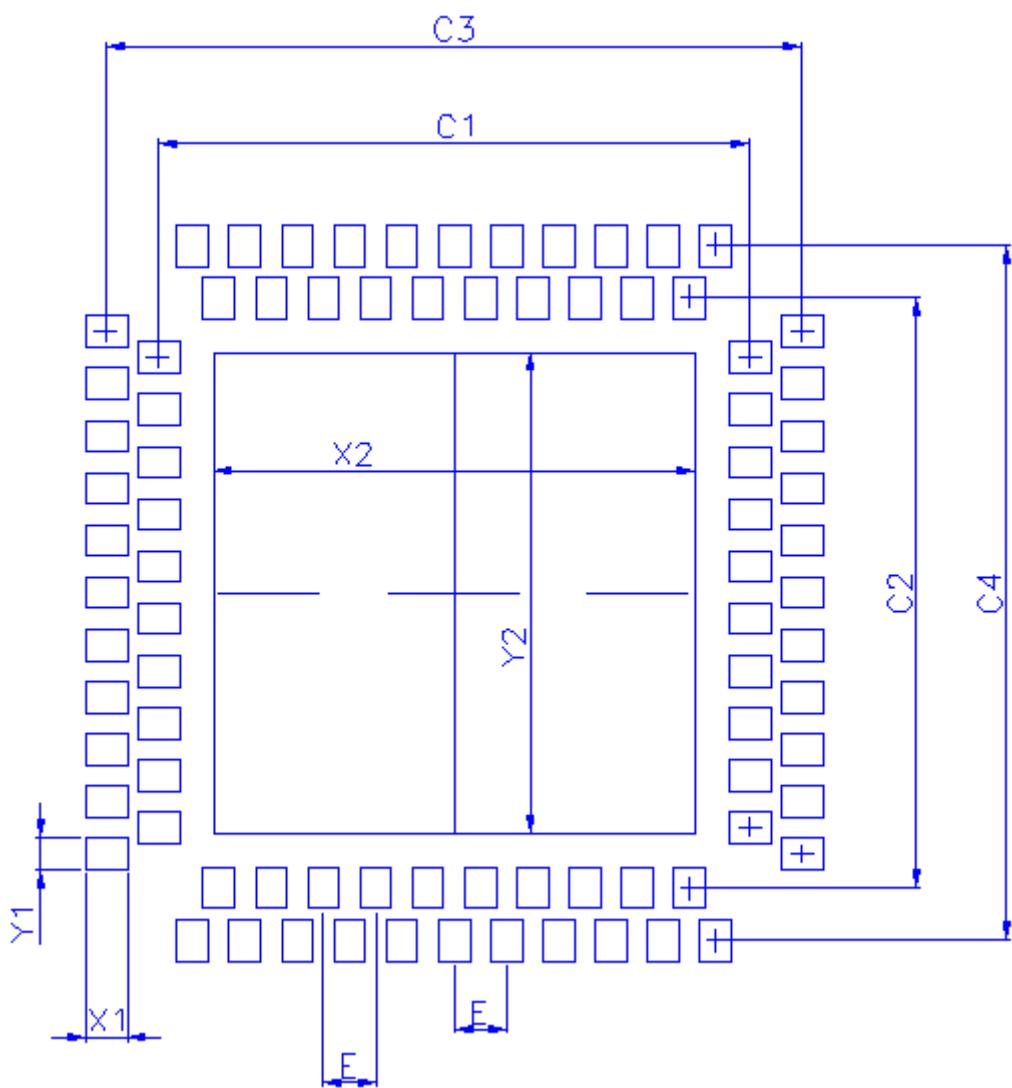

Figure 9.2. PCB Landing Pattern - DR-QFN
- Figure 9.2 PCB Landing Pattern - DR-QFN on page 72: Corrected dimensions C1, C2, C3, C4